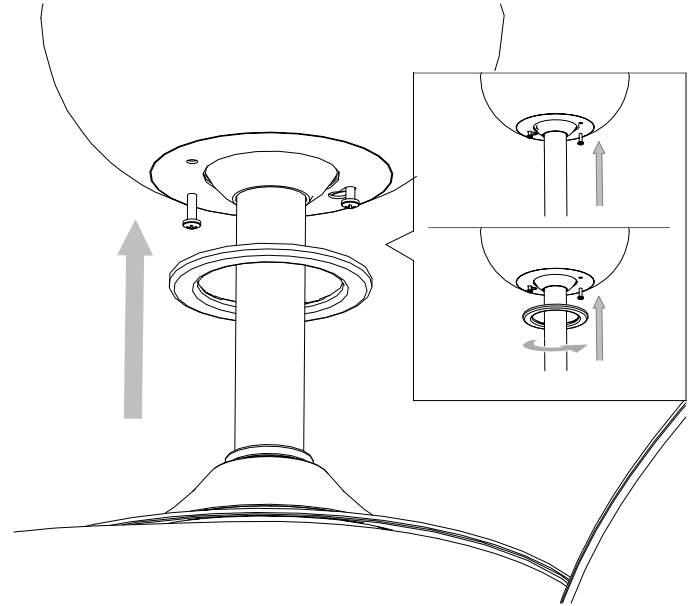

FIG.14
3. Slide the canopy up to mounting bracket and place the key hole on the canopy over the screw on the mounting bracket. Turn canopy until it locks in place at the narrow section of the key holes (**FIG.14**).